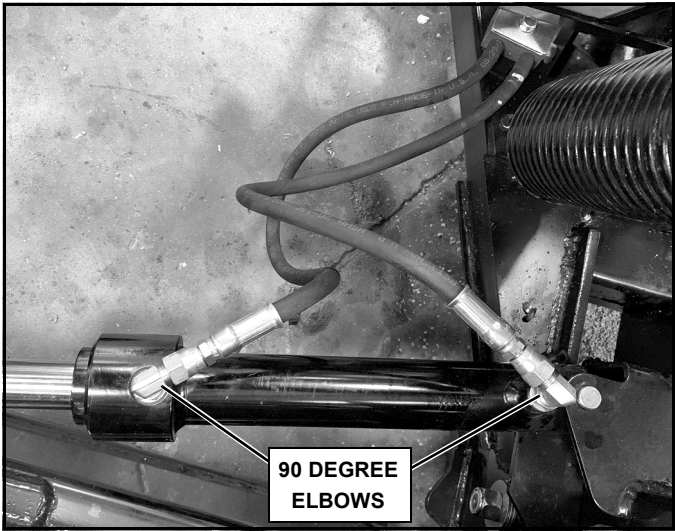
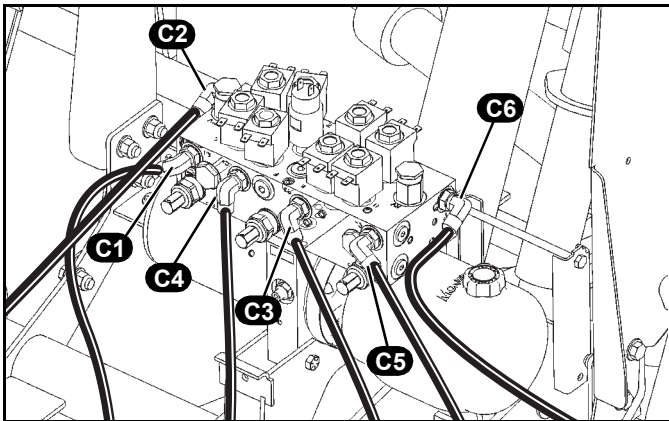
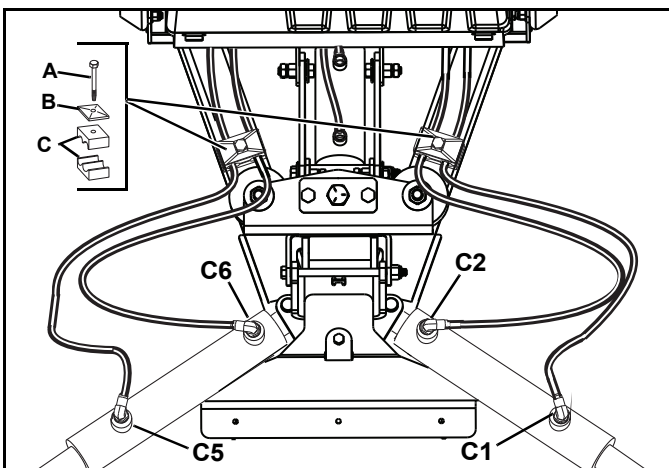

Figure 1-8
Figure 1-9-View From Rear of Valve Block
Figure 1-10
13. Install 90 deg. elbows into wing cylinder ports. Orientate as shown in Figure 1-8.
14. Loosely connect hydraulic hoses to the wing cylinders. (See Figure 1-8, Figure 1-9, and Figure 1-10).
NOTE: C1 through C6 references are hydraulic ports on the control valve that are marked accordingly. (See Figure 1-9 and Figure 1-10.)
15. Loosely position hydraulic hoses in hose clamps (A - 5/16" X 2" self-tapping screw, B - plate, C - clamp blocks) on each side of the A-frame. (See Figure 1-10.)
17. Orientate hydraulic hoses as shown in Figure 1-8.
NOTE: Hydraulic hoses must be installed as shown in Figure 1-10 to avoid interference with the jackstand.